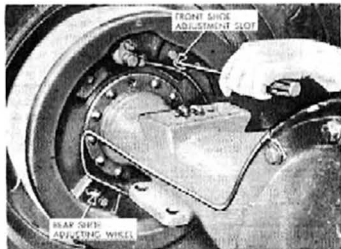

Fig. 36—Adjusting Type "FR3" Brakes
2. At one adjusting slot, insert screwdriver through slot and engage adjusting wheel (fig. 36). Move screwdriver handle